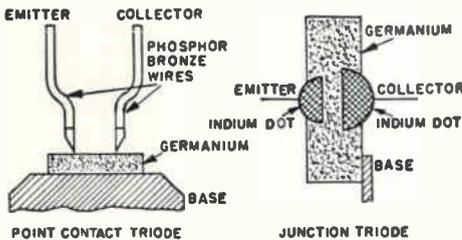

Fig. 1. Cross section of point contact and junction triode type transistors.
The basic elements of semiconductor devices, which include both diodes and transistors, are "barriers." A barrier may be formed in a number of ways. Two of the most common ways are (1) by placing a phosphor bronze wire on a small block of germanium and welding the two together (point contact), and (2) by placing a dot of indium on germanium and heating the indium so that it forms an alloy with some of the germanium (alloy junction). Both types are illustrated in Fig. 1.